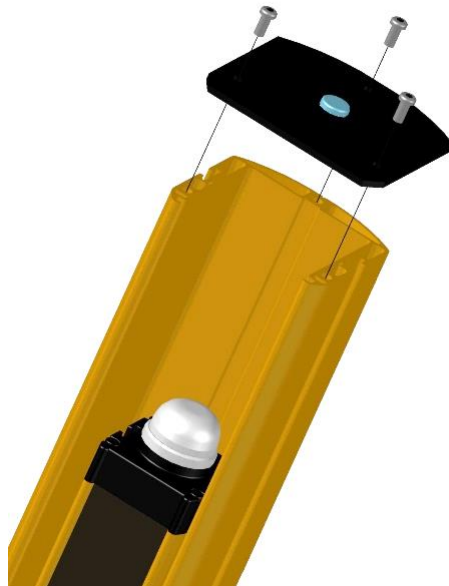

Figure 17
- Secure the cover with spirit level as shown in Figure 17, using the supplied screws.